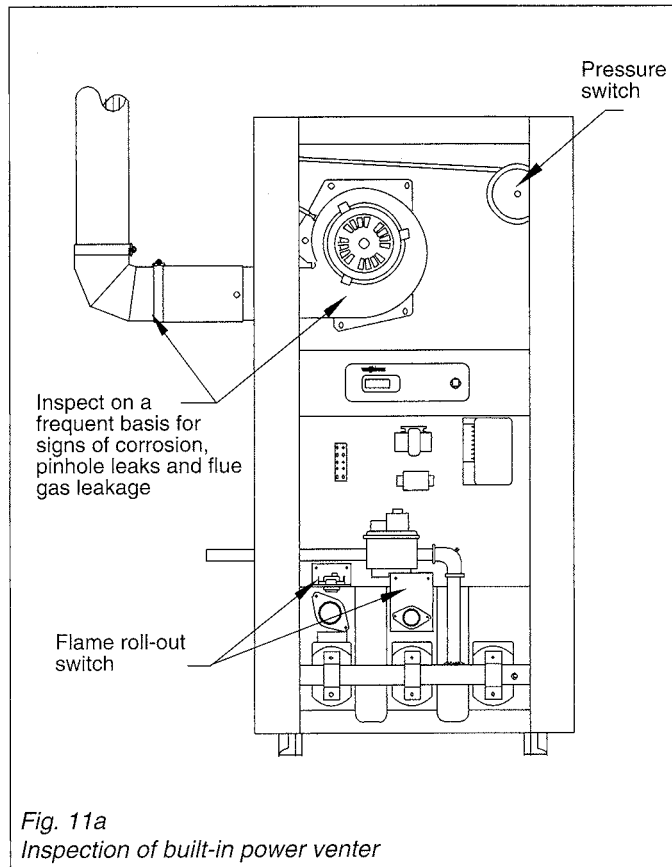

Fig. 11a
**The built-in power venter and vent system should be inspected annually to ensure that all products of combustion are being safely vented to the outdoors and that there is no leakage from corroded parts or joints. Failure to perform periodic inspections and replacement of damaged, corroded, or worn parts can cause property damage, severe personal injury, or loss of life (see Fig. 11a).**